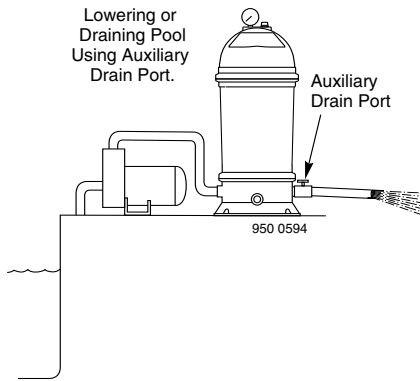

FIGURE 19
2. Attach garden hose or drain hose to Auxiliary Drain Port (see Figure 19). Position hose so that water runs away from pool to wastewater disposal area.